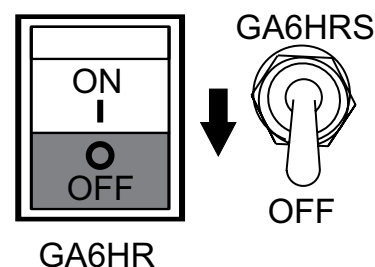

Figure 30. Operation Switch (Emergency)
1. Place operation switch (Figure 30) in the **OFF** position.